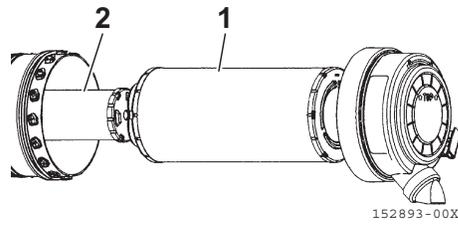

Fig. 8-46
3. Remove the outer element (Fig. 8-46, 1), and cover the inner element (Fig. 8-46, 2) with a clean waste cloth or pieces of tape to prevent dust and dirt from adhering to it.